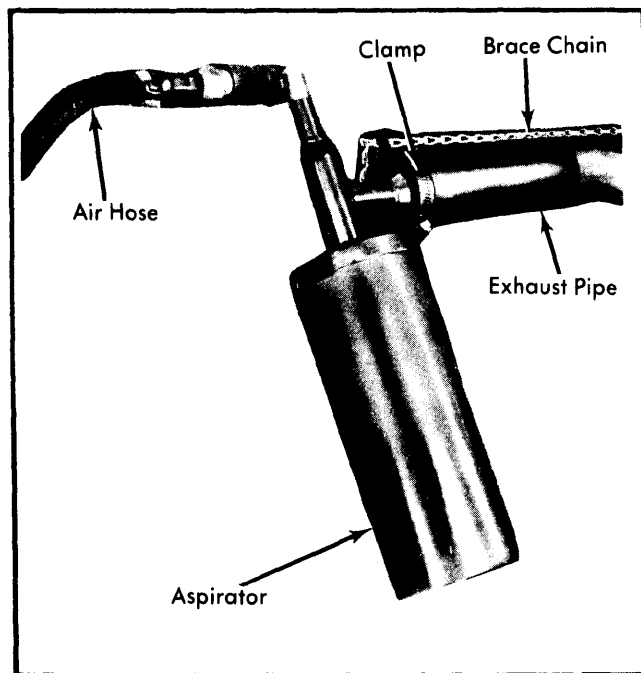

Fig. 4 Vacuum Aspirator Installation Jeep Vehicles Only
1) Raise vehicle and attach vacuum aspirator device (J-25077-01 or equivalent) to exhaust pipe as shown in Fig. 4.